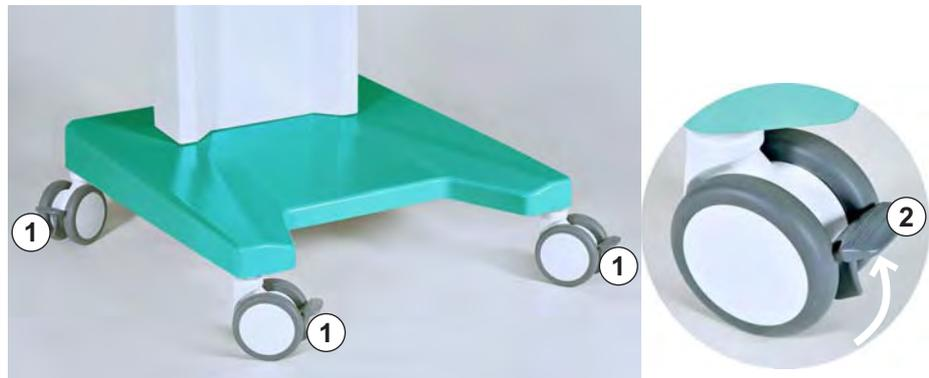

Fig. 4-2 Brakes on casters
1. Release brakes of all casters (Fig. 4-2, ①) before moving machine. Lift lever (②, arrow) to release a brake.